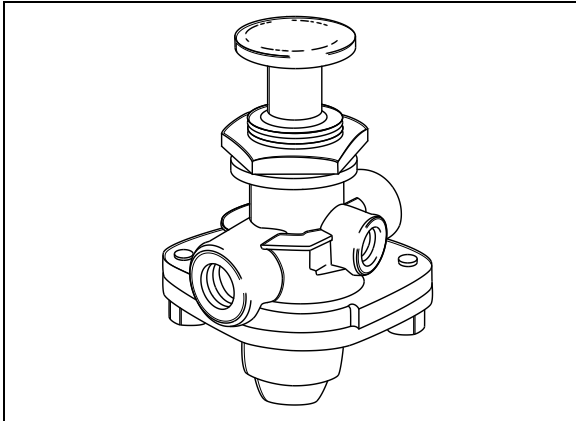

FIGURE 12: RD-3 12136
The E-10P dual brake valve is a floor mounted, foot-operated type brake valve with two separate supply and delivery circuits. This valve is located in the front service compartment (Figure 12).
1. Replace the linkage, loosen threaded rod lock nuts and screw or unscrew the threaded adjustment rod in order to obtain a 45° brake pedal inclination (Figure 12).